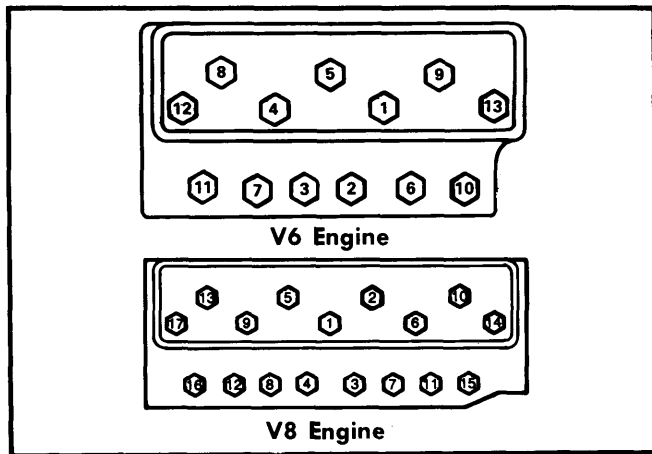

Fig. 2 Cylinder Head Tightening Sequence
2) Install gaskets over dowel pins with "bead" side up. Install cylinder heads, applying sealing compound to head bolt threads and tighten in sequence. See Fig. 2. Install push rods and rocker arms and adjust valves. Reverse removal procedure to complete installation.